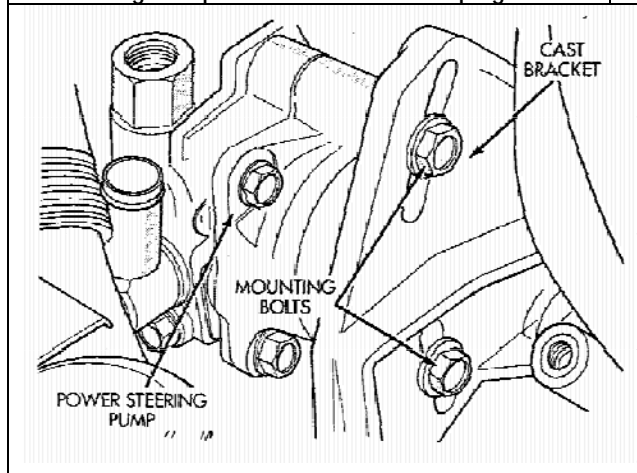

Fig 3 - PS rear mounting / adjusting bolts
- 7) Remove the power steering pump. This will allow you to move the power steering hoses from the front of the engine. Try not to disconnect any hoses to prevent leakage. If any hoses are disconnected, any o-rings at the banjo connections at the top of the pump will need to be replaced. You will also need to prevent any contamination of the power steering pump. *See Figures 3&4*